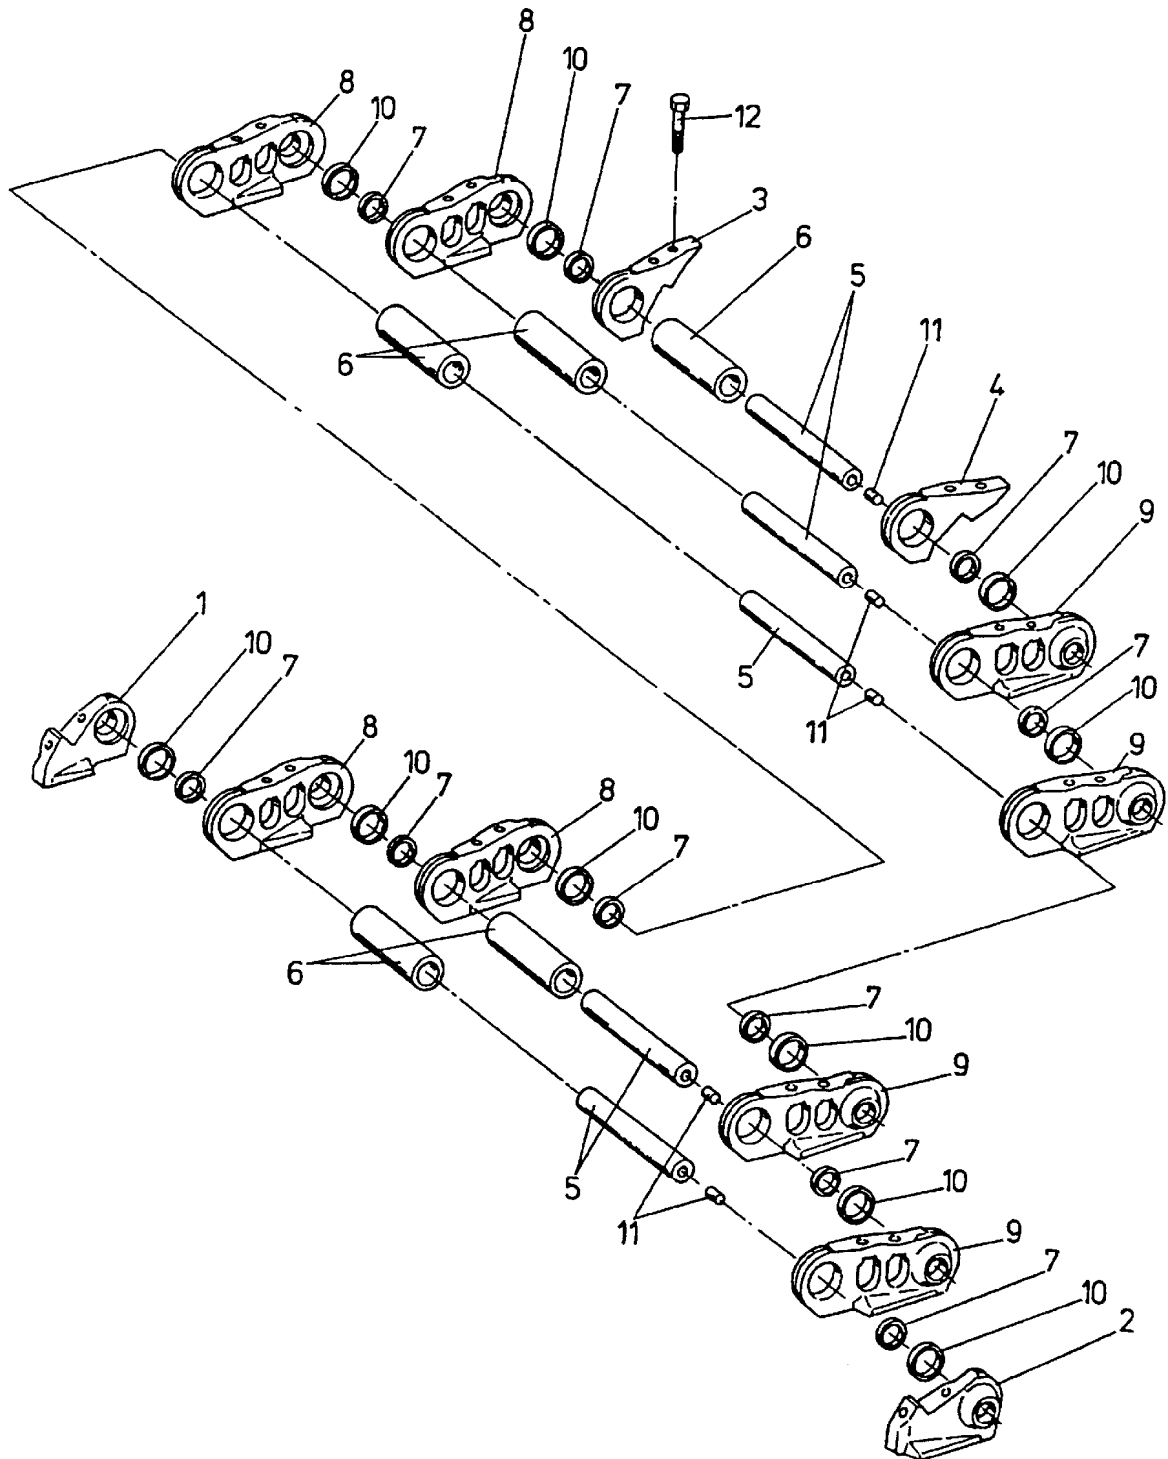
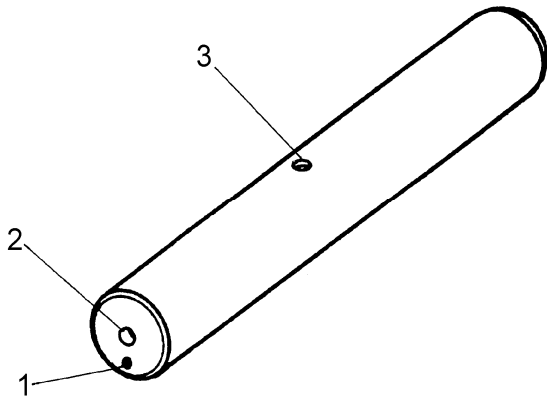
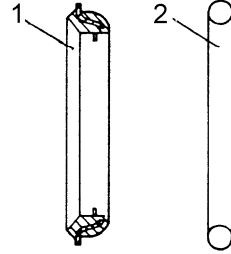
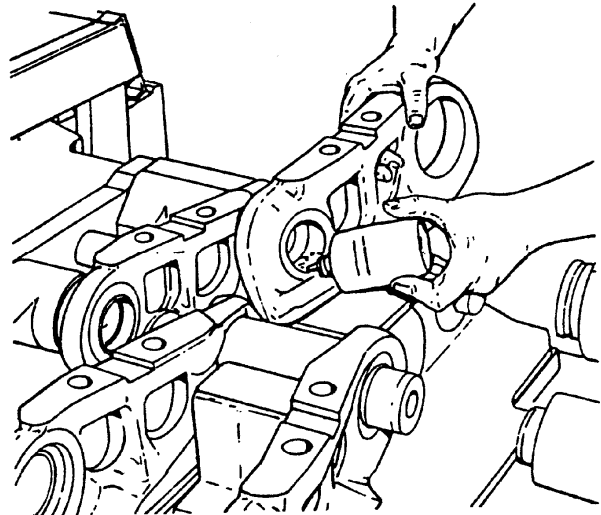

Fig. 15.5. Exploded View of Lubricated Track System
Fig. 15.6. Pin
Fig. 15.7. Seal Assembly
Fig. 15.9. LOCTITE #680 to Pin Bore
1. Remove track shoes. Using a slow-speed drill and a 12 mm drill bit, remove rubber plugs (11, Fig. 15.5) from pins (5). Position track chain on track press so that bushing end (non-threaded end) (3 and 4) of split link is toward rams.
2. Install disassembly adapters on ram heads. Advance track and lower table so split link drops into saddle. Press pin out of right link (9), then press pin out of left link (8). Remove loose split links from press. Advance track so next link drops into saddle. Press pin (5) and bushing (6) out of right link (9), then press pin and bushing out of left link (8). Remove loose links, bushing and pin from press. Repeat this step with remaining sections of chain. Remove seals (10) from track links. Inspect parts for wear/damage or improper assembly. Discard any parts which would adversely affect rebuild.
1. Dress up parts with emery cloth as required. Clean parts. On new or reused pins, mark an index mark (1, Fig. 15.6) on lube hole (2) end of pins on opposite side of cross-drilled hole (3).
2. Install assembly adapters on ram heads. Bolt halves of split links together and position them on press assembly adapters. Position a bushing (6, Fig. 15.5) in press saddle. Press links (3 and 4) onto bushing until bushing is seated against assembly adapter. Remove bolts securing two halves together. Advance track on press and position a pin (5) in assembled bushing (6). Apply a coat of oil on ends of bushing with tissue (not your fingers) as shown in Fig. 15.8, being careful not to get it on pin surface. Position next bushing (6) in press saddle. Check that seal halves are properly assembled as shown in Fig. 15.7.
3. Install O-rings (2) and seals (1) and thrust rings (7) in counterbore of next track links (8 and 9, Fig. 15.5) and apply LOCTITE #680 sparingly in outer half of pin bore of links (8 and 9) as shown in Fig. 15.9. Position links on press assembly adapter. Check that index mark (1, Fig. 15.6) is at bottom. Lube holes (2) must all face in same direction.
4. Press links (8 and 9, Fig. 15.5) onto pins (5) and bushings (6) being sure that link counterbore and bushing face are seated thrust ring (7). Do not exceed force indicated as this can damage ring (7). Do not adjust links for bolt hole location. Before chain is moved to next position, pressurize joint with 350 [kPa] of air pressure. After pressure holds for 10 [sec], place a special purpose rubber plug in end of pin of assembled joint using mounting tool (refer to SERVICE /SPECIAL TOOLS in this Section). Tap it in until it is flush or slightly below chamber of pin hole.
Use oil recommended in OPERATOR'S MANUAL with 0.02% red dye. Remove lubricator. Remove special purpose plug and install proper plug (11, Fig. 15.5) using mounting tool (refer to SERVICE/SPECIAL TOOLS in this Section). Tap it in until it is 3 [mm] below chamfer edge of pin hole. After installing plug punch the pin hole around its chamfer edge using header (refer to SERVICE/SPECIAL TOOLS in this Section) to prevent plug from escaping.
4. Position pilot pin (18) in track assembly so that pilot pin fits freely. Position new track pin in guide plate (4) with index mark (1, Fig. 15.6) facing toward track shoe mounting surface cross-drilled hole (3, Fig. 15.6) will be facing away from track shoe mounting. Apply LOCTITE #680 in bore of link and on OD of track pin. Align track pin on adapter plug (14), guide plate (4) and pilot pin (18) and press track pin in until it bottoms.